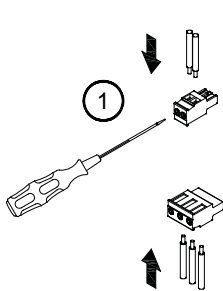
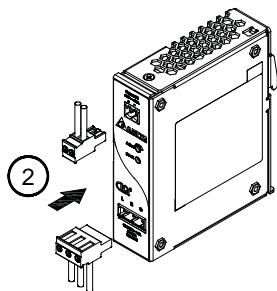

Fig. 3.1
Fig. 3.2
**CAUTION:** Tighten wire to housing (Fig. 3.1) before plugging into the terminal block connection (Fig. 3.2).